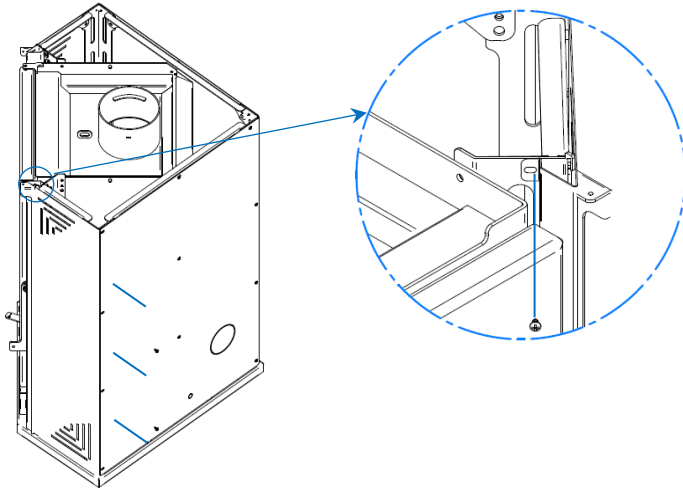

Figure 31 - Removing the side cover of the K4 Eco stove
- * Keep any combustible materials away from this appliance. For safety reasons, you should maintain a minimum clearance distance around the unit of 20 cm from the back, 30 cm from the sides and 120 cm from the front (Fig.31);